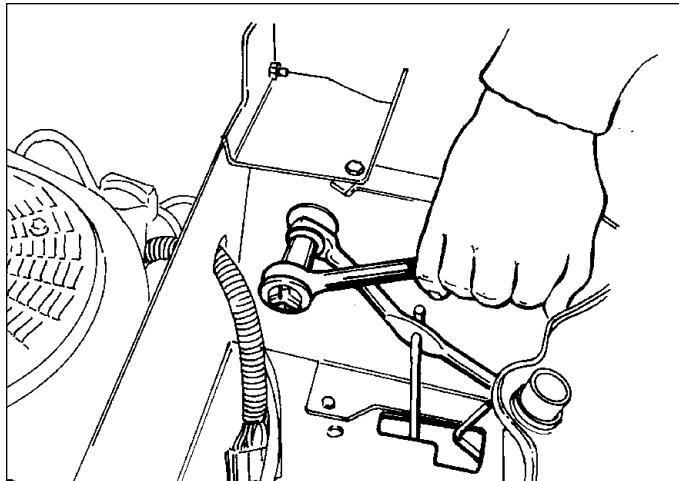

Figure B-27. Remove Locknut From Lift Handle Rod Pivot Spacer
1. Using a 1/2" socket, remove the locknut securing the lift handle rod to the pivot spacer inside of the lower dash (Figure B-27).